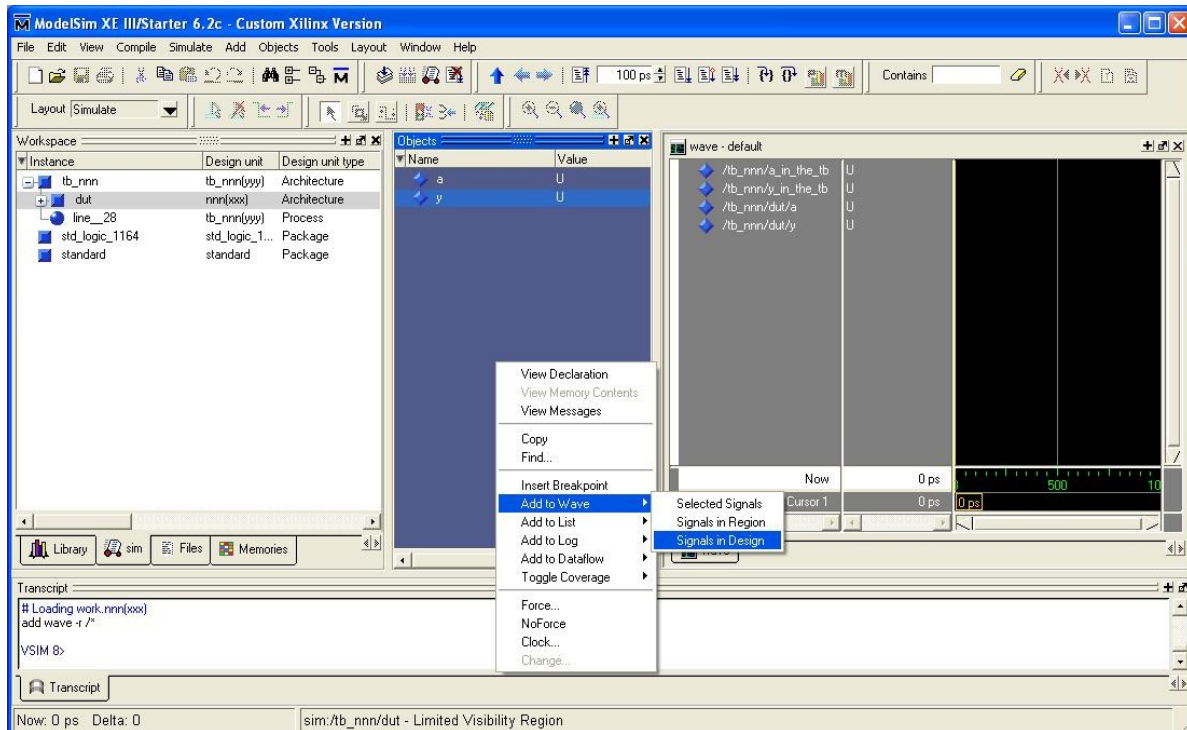

Figure 5: Add to wave --> Signals in Design
6. Place the cursor in the Objects window and click on the mouse' right button. This should bring a menu where the cursor is. Select the “Add to Wave → “Signals in Design” option in order to send all the signals from all the system's hierarchies into the “Wave” window. See figure 5 for more details.